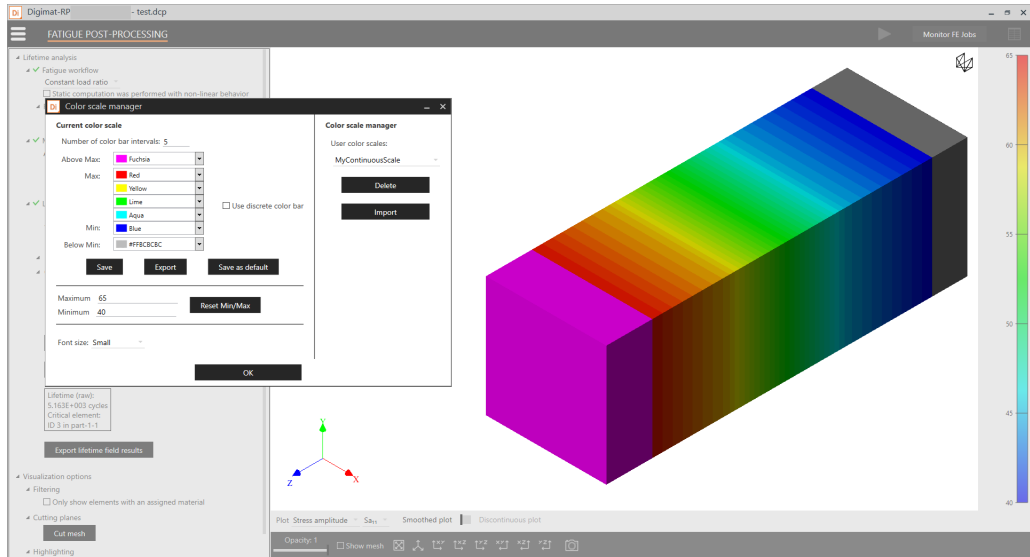
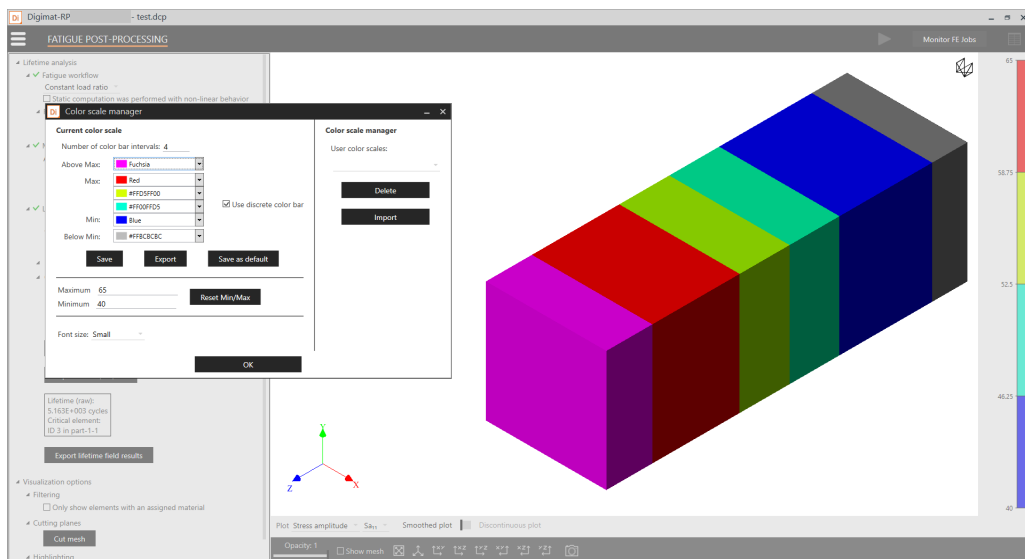

Figure 1-11 Example of a continuous custom color scale.
Figure 1-12 Example of a discrete custom color scale.
- Use a continuous (Figure 1-11) or discrete (Figure 1-12) color scale;